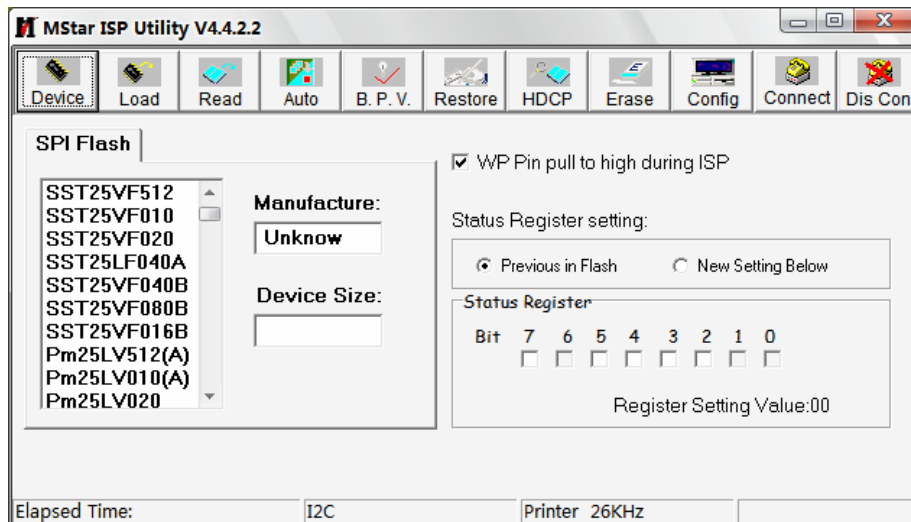

Fig. 2 Write-protect setup
- 2) Use on-line burning tool of **Mstar**, enter into menu “**Device**”, select item “**WP Pin pull to high during ISP**” as **Fig. 2**; for the normal erasing process, make sure hardware write-protect of **Flash** is canceled;